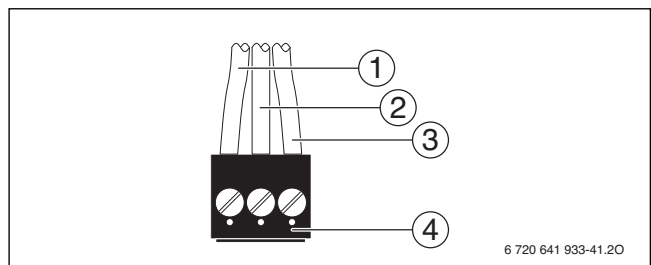

Fig. 52 Attach plug (external pump)
- ▶ Connect cable to **the black plug** according to Fig. 52.